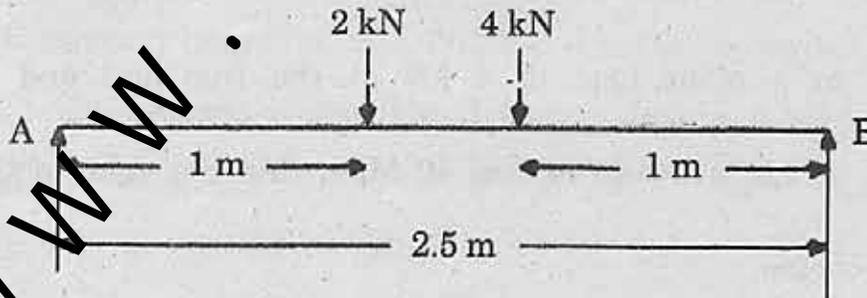

Fig. 3
4. (a) A simply supported beam AB of span 2.5 m is carrying two point loads as shown in Fig. 3. Draw shear force diagram and bending moment diagram for the beam. [6]